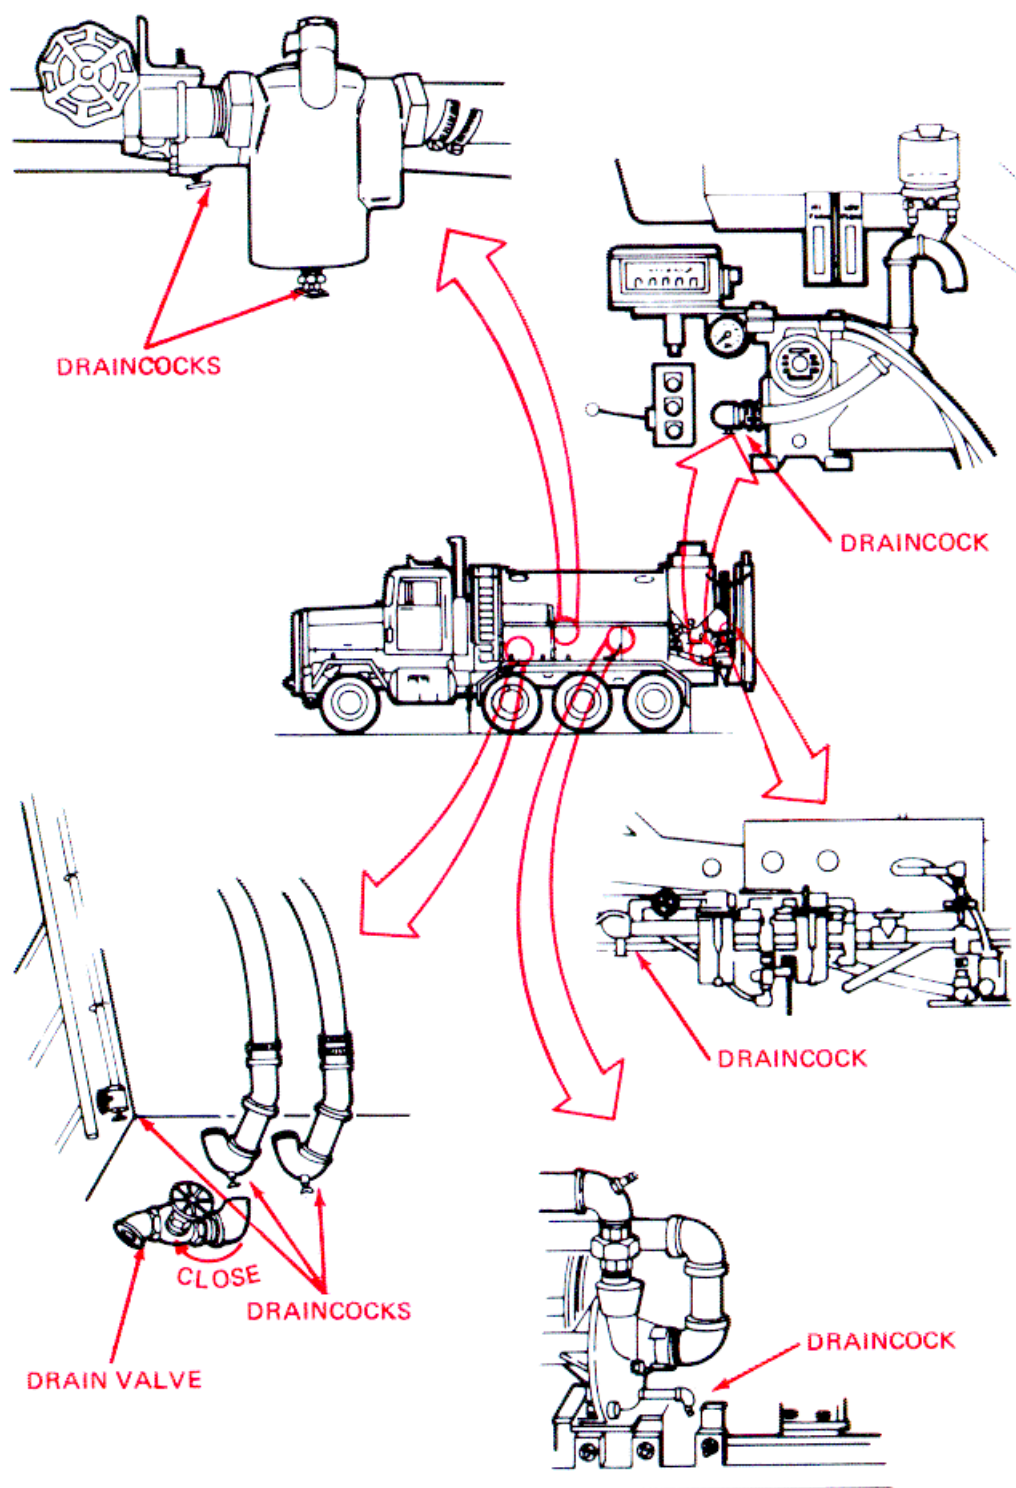
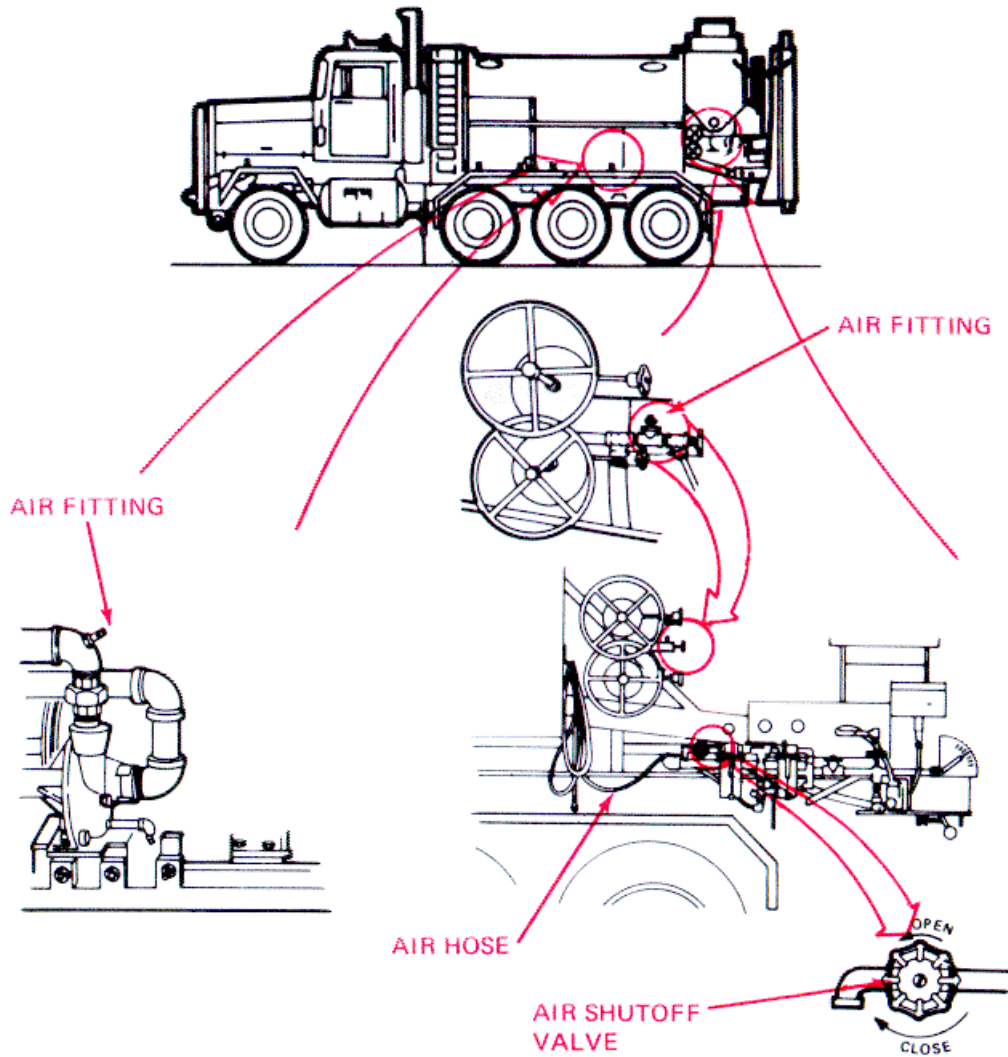

Figure 3-19. Water Drain Valve and Draincocks.
Figure 3-21. Air Hose and Fittings.
- (2) Be sure you are in an area suitable for draining up to 400 gallons (1514 L) of water. Open the drain valve (fig. 3-19).
- (4) Open the eight draincocks and the vent (fig. 3-19).
- (5) Put the fill cap back on Close valve (fig. 3-19).
- (6) Be sure the air shutoff valve is open (fig. 3-21). Remove the caps from the air fittings one at a time. Blow air into them with the auxiliary hose until no more water comes from the draincocks.
- (7) If available, inject 10-25 drops or a teaspoon of alcohol or other antifreeze into the air fittings and blow compressed air into the water system to prevent frosting and freezing of the water pump and valves. Install the air fitting caps.
- (8) Close the eight draincocks and the vent (fig. 3-19).